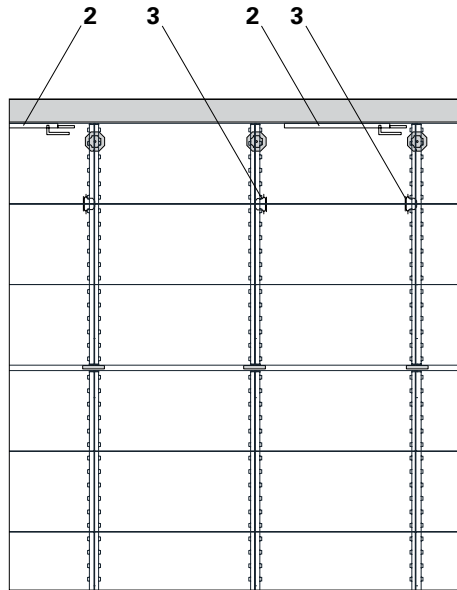

Fig. A1.14
Secure the fixed panels with two additional Panel Wedge Clips SPKK (3). (Fig. A1.14)